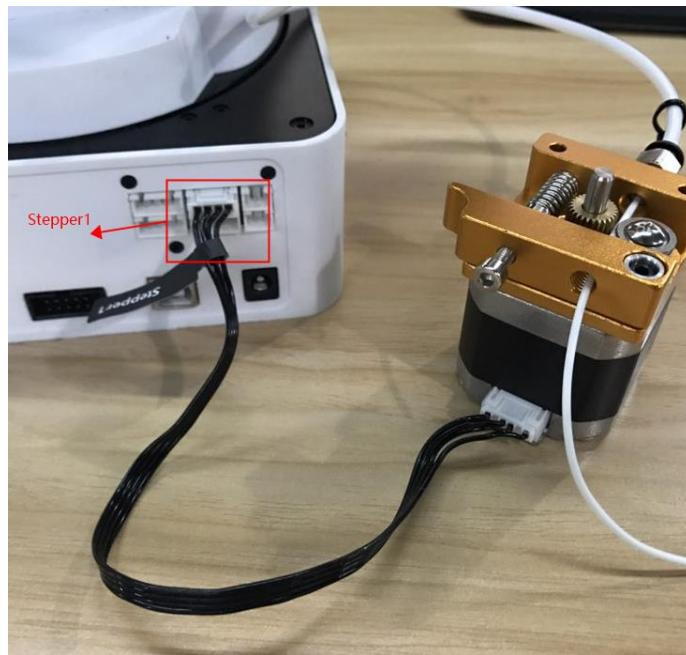

Figure 5.122 Connect with extruder
Step 6 Connect the extruder to the **Stepper1** interface on the back of the base with motor cable, as shown in Figure 5.122.